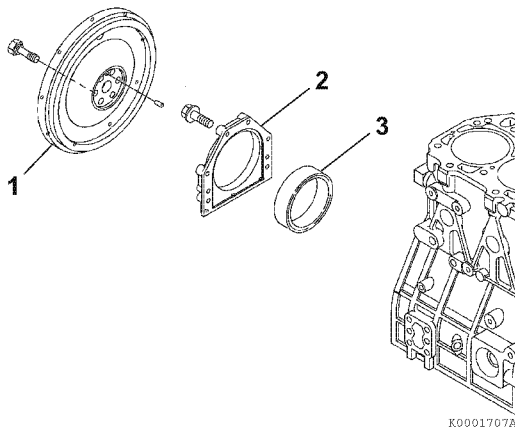

Figure 6-90
- Apply ThreeBond Liquid Gasket No. 1207F, YANMAR Part No. 977770-1207F to the mounting flange of the seal housing (Figure 6-90, (2)).
- Reinstall the flywheel (Figure 6-90, (1)) and tighten the bolts to the specified torque. See *Special Torque Chart* on page 6-10 for specifications.